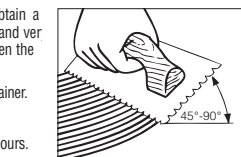

Figure 9
- Hold trowel at a minimum 45° angle (Figure 9) firmly against the subfloor to obtain a 40–60 ft.² (4–5.5 m²) per gallon spread rate. The trowel will leave ridges of adhesive and very little adhesive between the ridges. This will allow you to still see the chalk lines between the ridges and provide the recommended spread rate.